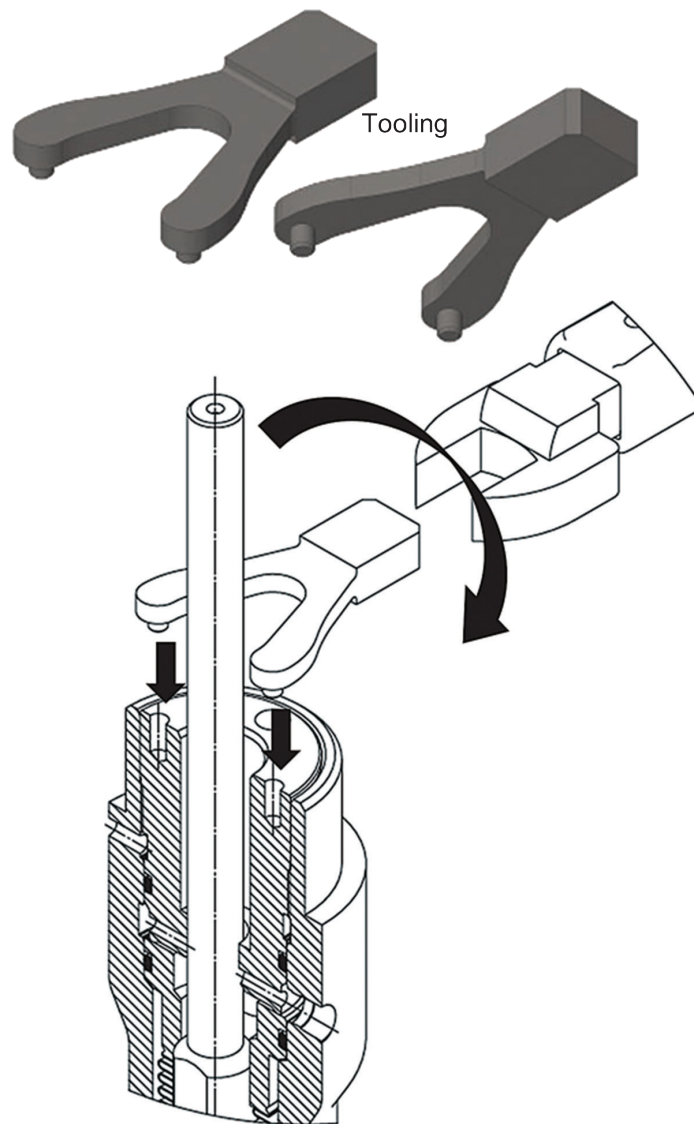

Figure 13 - Bonnet Spud Tightening Tooling
- Untighten and remove bonnet spud (B003) by using tooling shown in Figure 13 on page 22.
Tighten the bonnet spud (B003) into the bonnet extension B007 by using tooling shown in Figure 13 on page 22 coupled to a torque wrench. Tightening torque indicated in the table below: